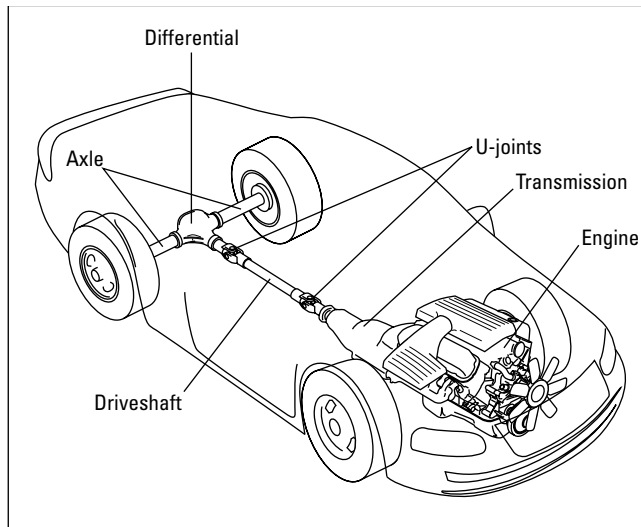

Figure 4-6: Cutaway view of a car with rear-wheel drive.
- To the rear of the crankshaft is the **transmission**, called a **transaxle** on vehicles with **front-wheel drive**. If your vehicle has **rear-wheel drive** (see Figure 4-6), the transmission is under the floor ahead of the front